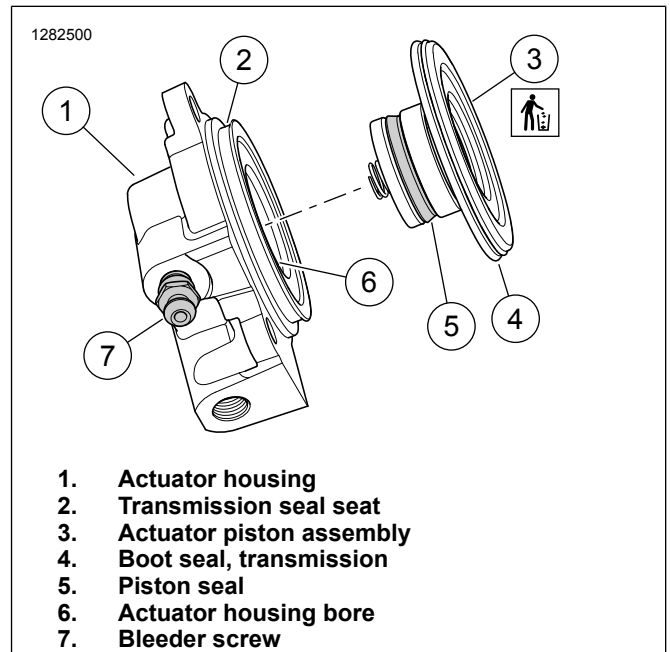
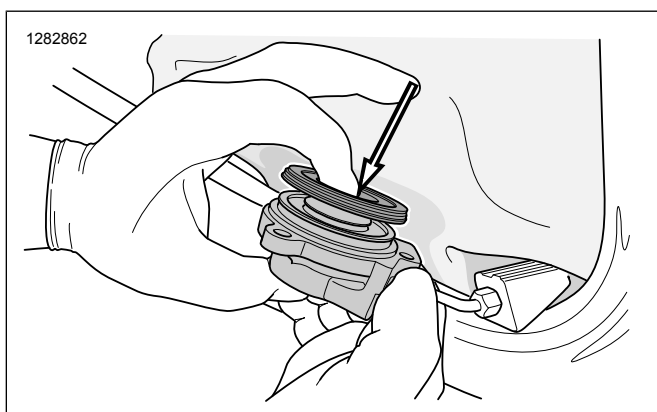

Figure 3. Secondary Actuator Assembly
Figure 5. Installing Actuator Piston Assembly
1. See Figure 3. Remove the actuator piston assembly (3).
- b. See Figure 3. Remove the transmission seal boot from the transmission seal seat (2).
- c. Remove piston assembly from actuator housing (1).
2. See Figure 3. Clean actuator.
2. See Figure 3. Remove **new** actuator piston assembly (3) from packaging.
- a. Align **new** actuator piston assembly squarely to the actuator housing bore (6).
- b. See Figure 5. Push down on center of piston until fully seated in bore.
- c. See Figure 3. Install the transmission boot seal (4) around the transmission seal seat (2).
- b. See Figure 3. If hold-in test continues to fail, remove actuator piston assembly (3) and inspect piston seal (5) and actuator housing bore (6). Refer to Clean and Inspect.